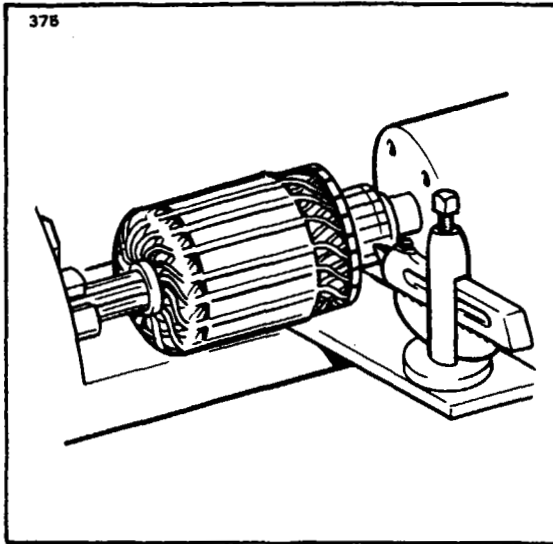

Figure 11-61. Turning Starting Motor Commutator
a. Check the commutator for uneven wear, excessive glazing or evidence of excessive arcing. If only slightly dirty, glazed or discolored, the commutator can be cleaned with 00 or 000 sandpaper. If the commutator is rough or worn, it should be turned in a lathe. (Refer to Figure 11-61.) The armature shaft should be inspected for rough bearing surfaces and rough or damaged splines.